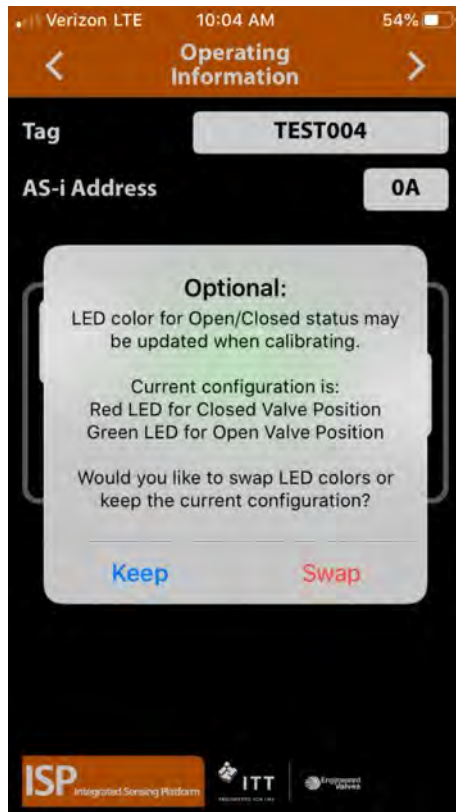

Figure 4: LED color swap option
3. During calibration, a popup Figure 4: LED color swap option on page 5 will offer to swap the LED colors for open and closed. Select Keep or Swap.